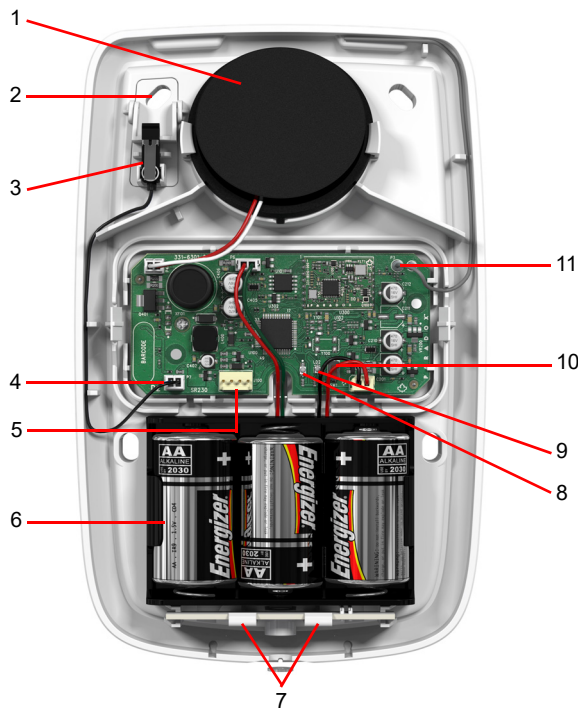

Figure 1:SR230 PCB View
**Note:** Ensure that the SR230 is awake before beginning the firmware upgrade. To wake-up the siren, press the learn switch (see #10 in Figure 1). The siren provides you a 60 second delay in order to begin the update.